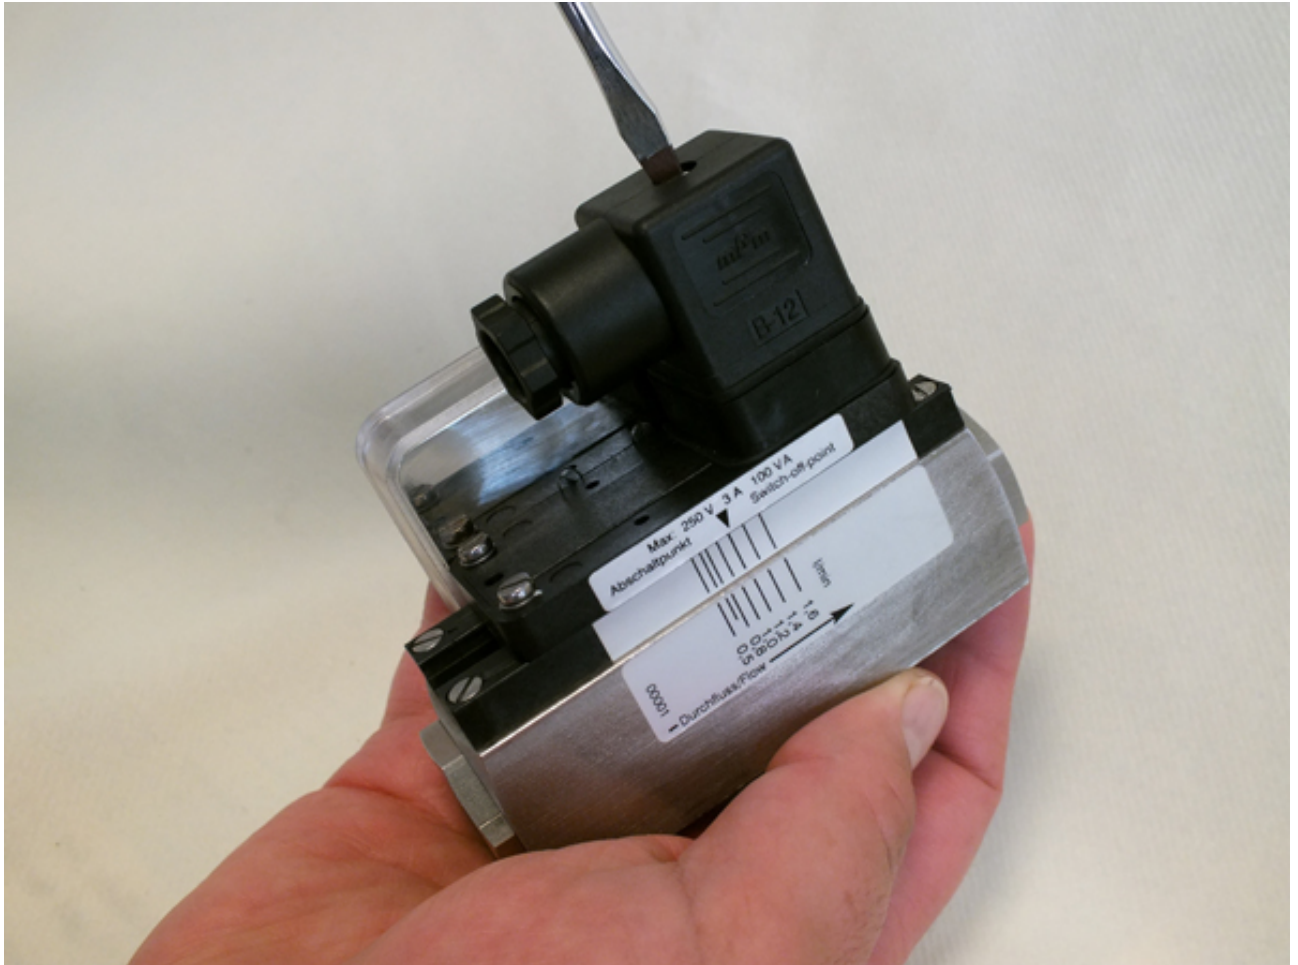

Fig. 70: Loosen female socket
1. ➤ Loosen the fixing screw of the female socket (Fig. 70) with a flat-bladed screwdriver.